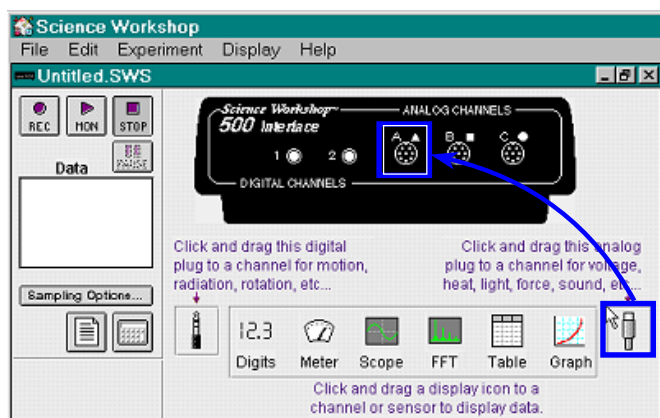

Figure 2. Activating the analog channel in *Science Workshop*.
- 2 Open the Experiment Setup window in *ScienceWorkshop*. Click and drag the analog plug icon to the analog channel icon that matches the analog port you are using for the Current Sensor (Figure 2).